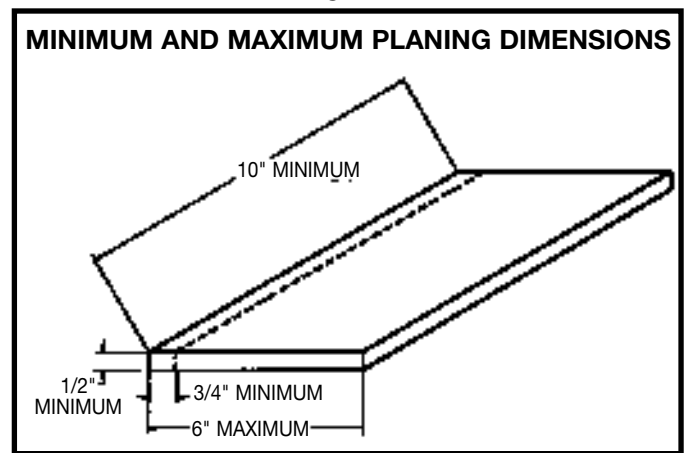

Fig. 40A
**DO NOT PERFORM PLANING OPERATIONS ON MATERIAL SHORTER THAN 10 INCHES, NARROWER THAN 3/4 INCH, WIDER THAN 6 INCHES, OR LESS THAN 1/2 INCH THICK (REFER TO FIG. 40A).**